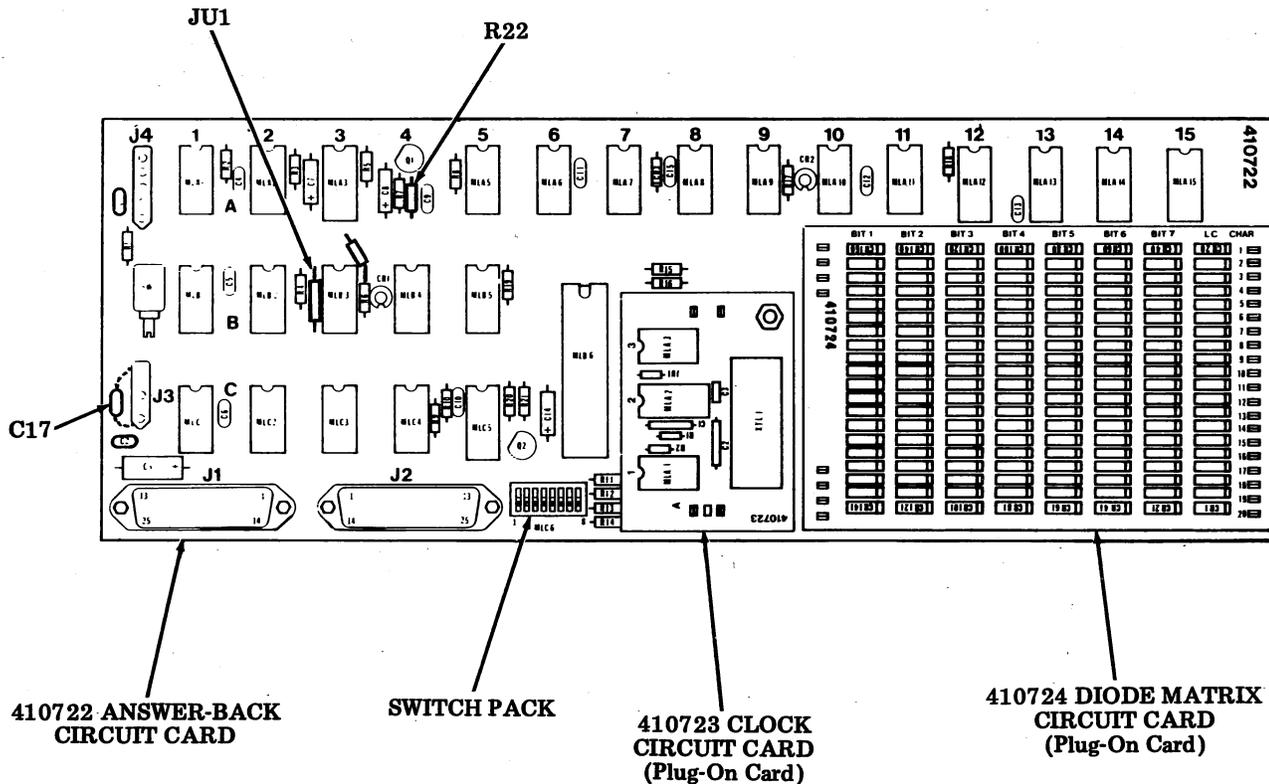
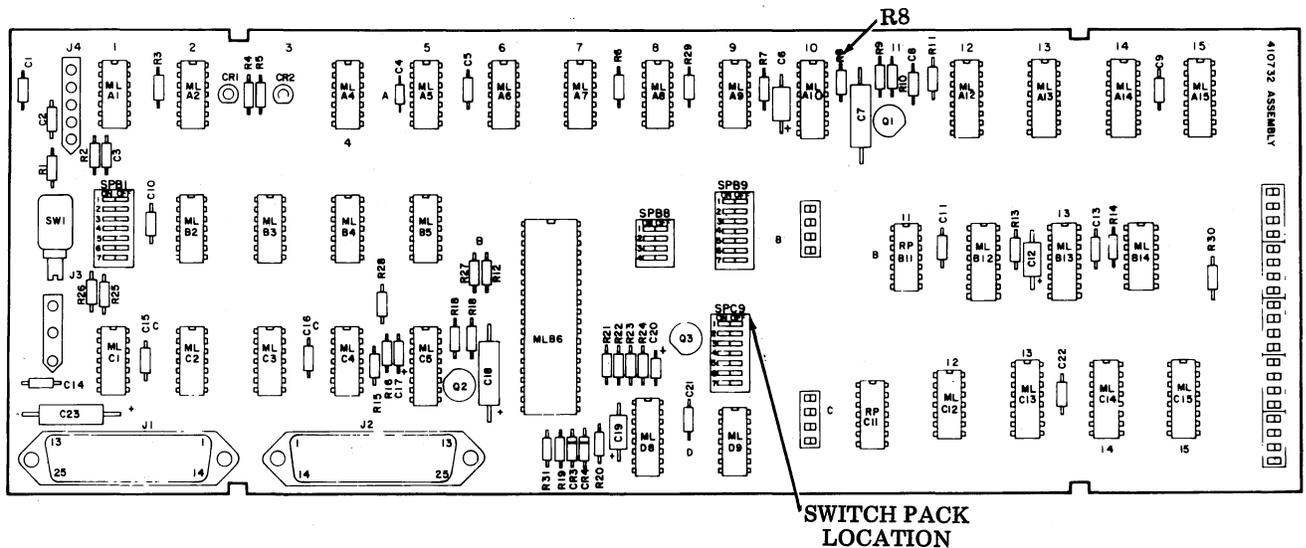
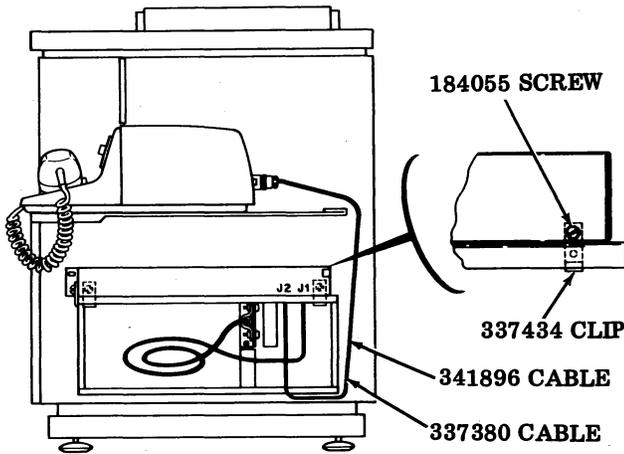

Fig. 1—Answer-Back Assembly Circuit Cards in 40AB101/AA
Fig. 2—410732 Answer-Back Card in 40AB101/AC
Fig. 9—Answer-Back in Magnetic Tape Terminal
the exception of the 410724 diode matrix card (Fig. 1), which may be retained with the new unit.
(f) Make sure 410723 and 410724 circuit cards are secure in their receptacles on the 410722 circuit card (Fig. 2).
3.01 The answer-back message is programmed on the 410724 diode matrix circuit card (Fig. 1). This card contains 20 character rows of diodes with seven bits per row. The eighth bit of each character (parity) is programmed by setting Option 76 (see Option Chart) as directed in 3.05.
3.05 The 410722 (40AB101/AA) circuit card (Fig. 1) includes one 8-position switch pack for optioning. The 410732 (40AB101/AC) circuit card (Fig. 2) includes three 7-position switch packs and one 4-position switch pack for optioning. Use the following Option Chart to program AB options.
3.06 If Reverse Channel (Option 73.a.) is used, remove resistor R22 (5100 ohms) from 410722 Area A4 (Fig. 1) or resistor R8 (5.1K ohms) from 410732 Area A10 (Fig. 2) to make Clear To Send (CTS) signal time delay 4 seconds instead of 22 milliseconds.
4.05 Disconnect the 337380 data set cable (between the data set and electronics module) at the data set and plug it into answer-back J1 connector (Fig. 1 and 2). Connect 341896 cable (shipped with answer-back) to J2 on answer-back and connect other end to the data set (Fig. 9).
4.06 Attach the answer-back to the electronics module of the magnetic tape terminal with three 337434 clips and three 184055 screws (shipped with the answer-back) as shown in Fig. 9.